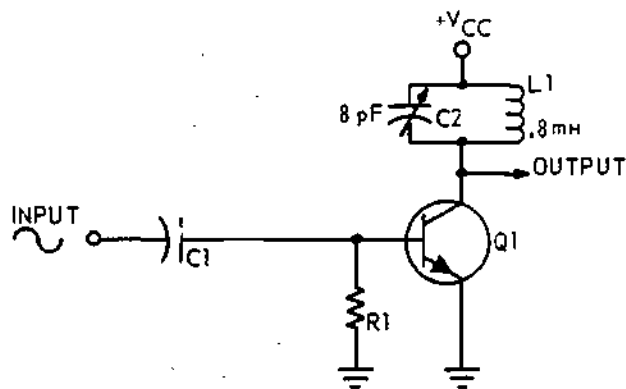

Figure 45-1
1. A frequency multiplier will most likely operate Class (A) (C) in order to (produce) (prevent) harmonics of the fundamental frequency.
3. Given the figure 45-1 schematic diagram with tank circuit component values, the resonant frequency of the tank circuit is